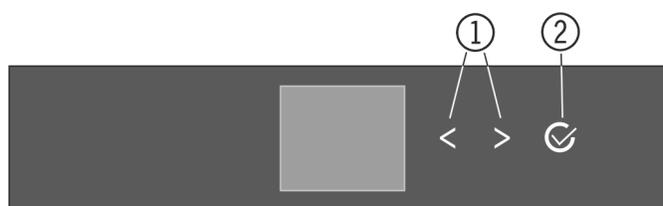
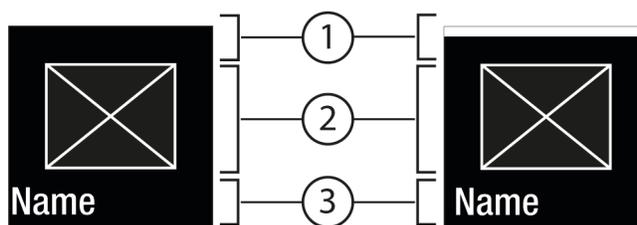
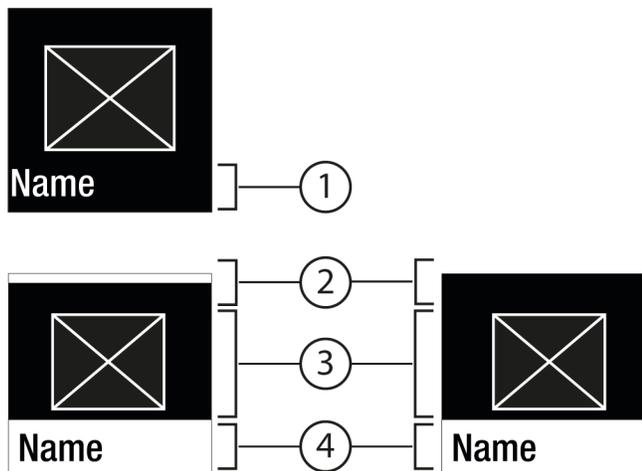

Fig. 5
Fig. 6
Fig. 7
- (1)** Left/right navigation arrow      **(2)** Confirm arrow
#### Left/right navigation arrow Fig. 5 (1):
#### Confirm Fig. 5 (2):
- Navigate with the left/right navigation arrow Fig. 5 (1).
- Press Confirm Fig. 5 (2) to go to the submenu Fig. 7 (4).
- Set new level: Press Confirm Fig. 5 (2) to select a deselected value Fig. 6 (1).
- Back to menu: Press Confirm Fig. 5 (2) to select the selected value Fig. 6 (2).
▶ Press the navigation arrows Fig. 5 (1) repeatedly until the function is displayed.
▶ Press Confirm Fig. 5 (2).
▶ Select the setting value with the navigation arrows Fig. 5 (1).
▶ Press Fig. 5 (2) confirm.
- ▷ Status: on Fig. 6 (1) appears briefly in the submenu Fig. 7 (4).
- ▶ Press the navigation arrows Fig. 5 (1) repeatedly until the settings  are displayed.
- ▶ Press Confirm Fig. 5 (2).
- ▶ Press the navigation arrows Fig. 5 (1) repeatedly until the desired setting is displayed.
- ▶ Press Confirm Fig. 5 (2) for 3 seconds.